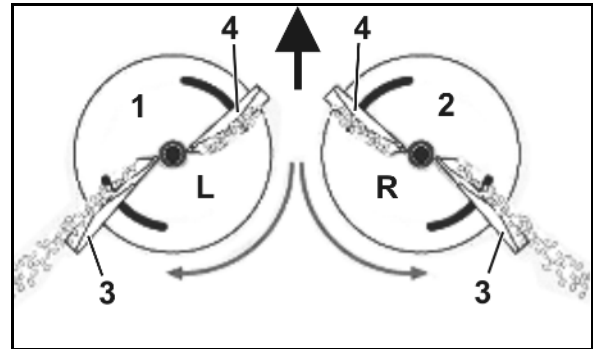

Fig. 19
- Left spreading disc (Fig. 19/1) with **L** mark.
- Right spreading disc (Fig. 19/2) with **R** mark.
- Long (Fig. 19/3) - Adjustment scale with values from 35 to 55.
- Short (Fig. 19/4) - Adjustment scale with values from 5 to 28.